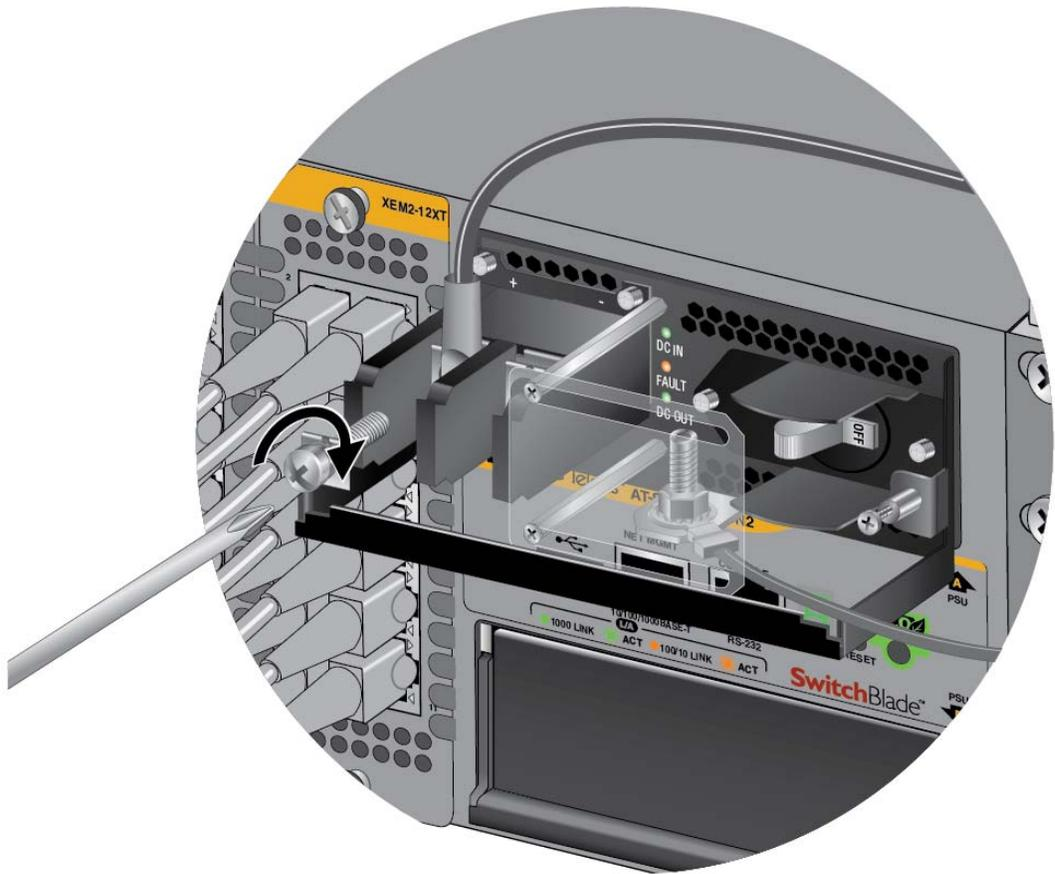

Figure 83. Connecting the Positive (+) Power Wire with a Straight Terminal
6. With a #3 Phillips-head screwdriver, connect the positive (+) power lead wire to the positive terminal on the power supply, with one of the terminal screws removed in the previous step. The positive terminal is on the left. You may attach the terminals with the wires either above or below the terminal block. Figure 83 on page 135 shows the positive wire above the terminal block.